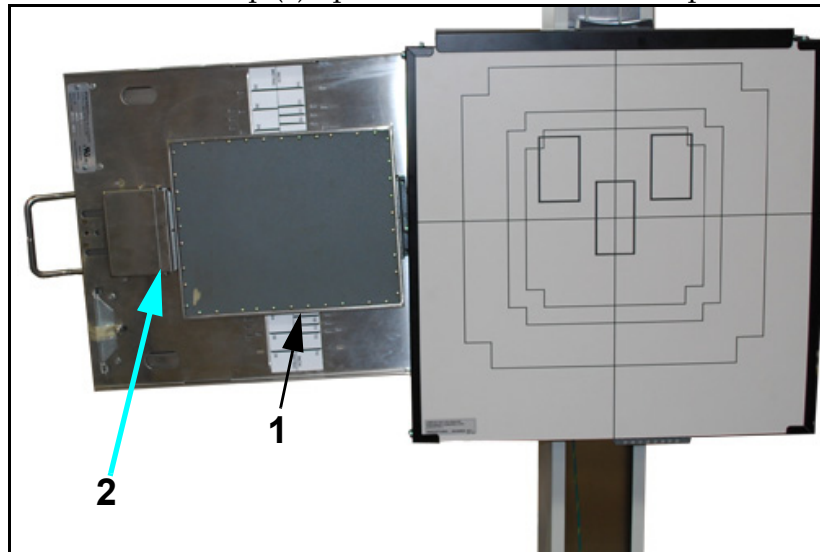

Figure 3-5. Cassette & Clamp
- 4 Insert cassette (1 in Figure 3-5) into tray.
- 5 Slide clamp (2) up to cassette and close clamp.